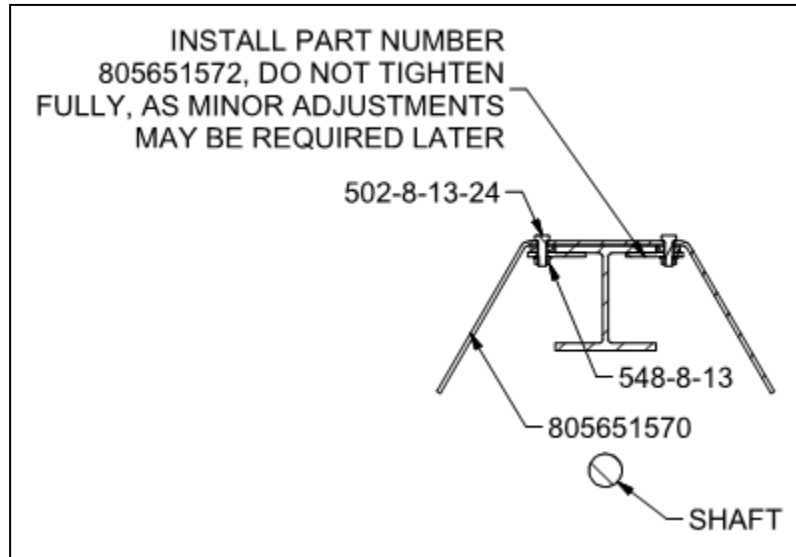

Figure 3
4. Install items 5 and 7. Don't tighten these bolts fully, as some adjustment may be required later in the set up (see figure 3)